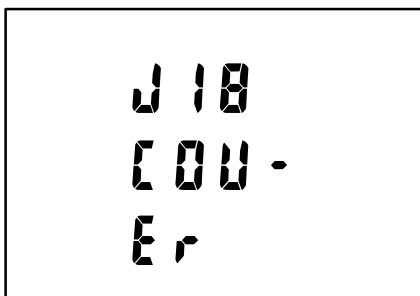

Figure 1–4: Initial Power-On Display
2. When power is initially turned on, the display reminds you to cover the sensor; see Figure 1–4. If the sensor is uncovered, the display flashes and the self-test does not continue.